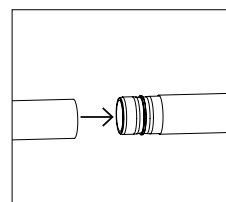

Figure 10b
- b. For the 6' pole section (80" from floor), insert the plastic connector and end cap onto each end of the closet pole (**Figure 10b & 10c**).